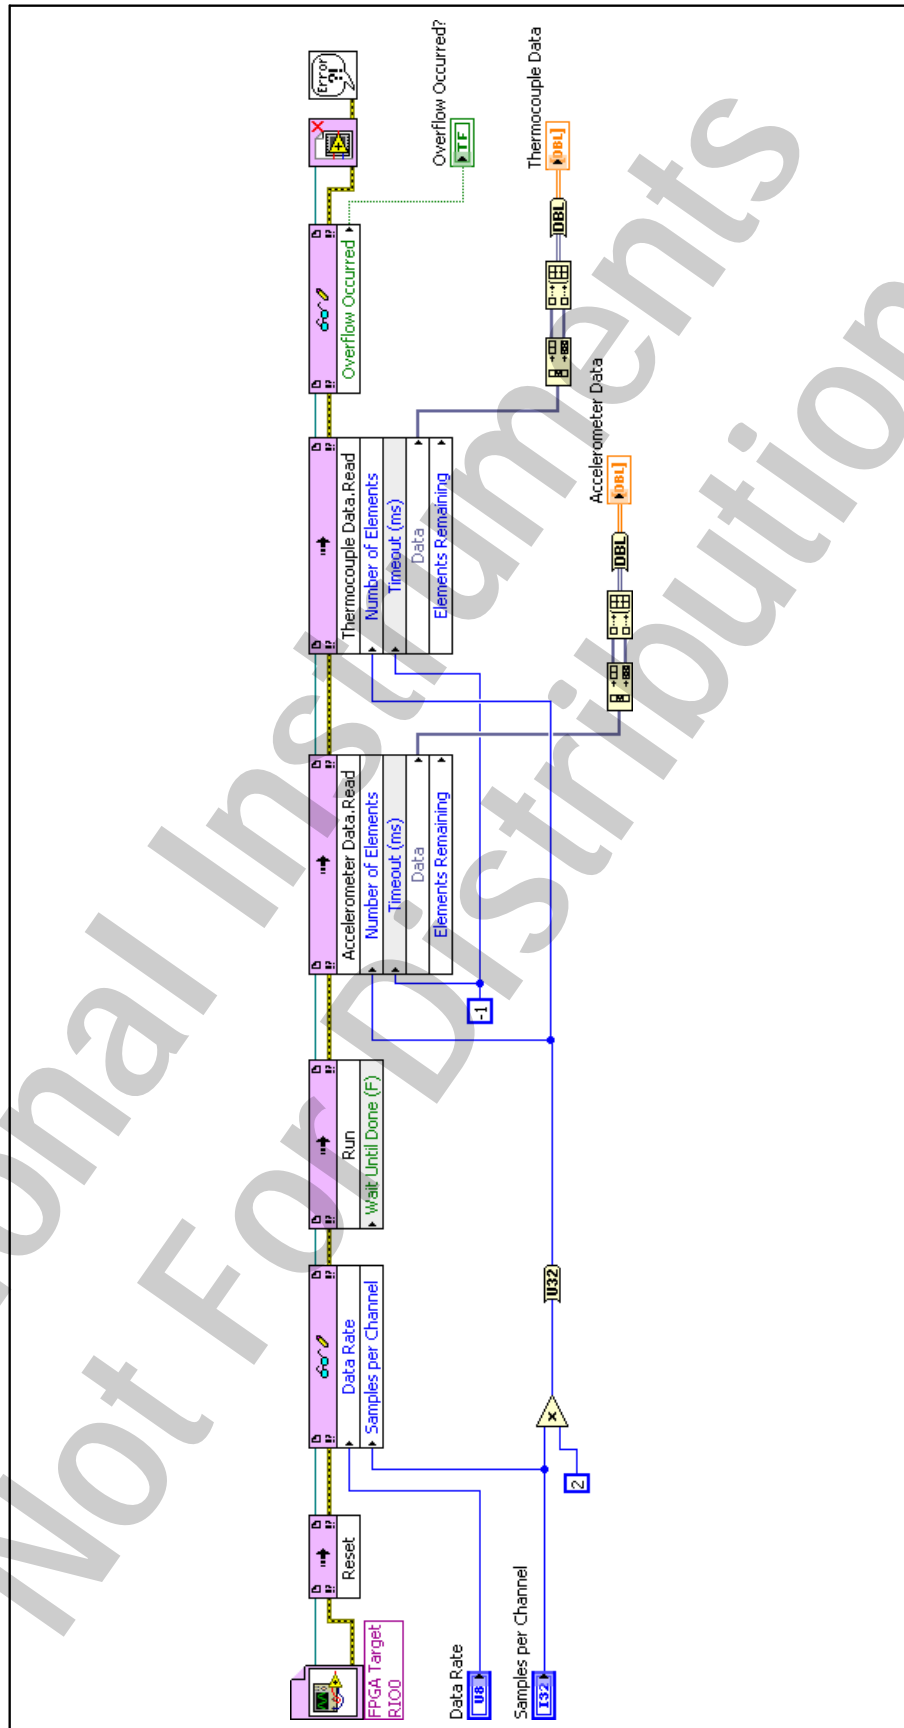

Figure 9-16. RT Host Interleaving Block Diagram
13. Using the following items, modify the block diagram to match Figure 9-16:
- ☐ Wire the block diagram as shown in Figure 9-16.